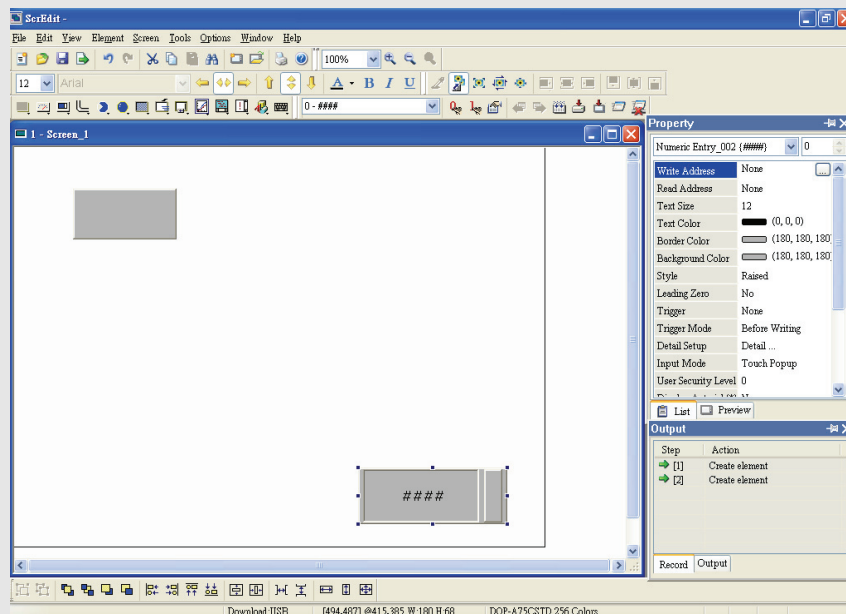

Fig. 2.8.2
2. Create a button element and a numeric entry element on HMI screen and do not change the element default property as the Fig. 2.8.2 below.